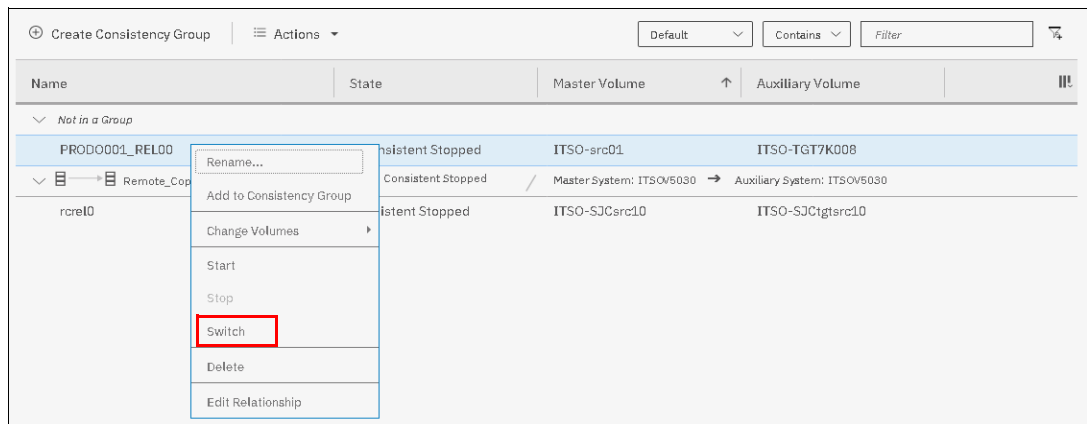

Figure 10-111 Switch remote copy
3. In the table, select the remote copy relationship that you want to switch and right-click **Switch** to start the remote copy process, as shown in Figure 10-111.